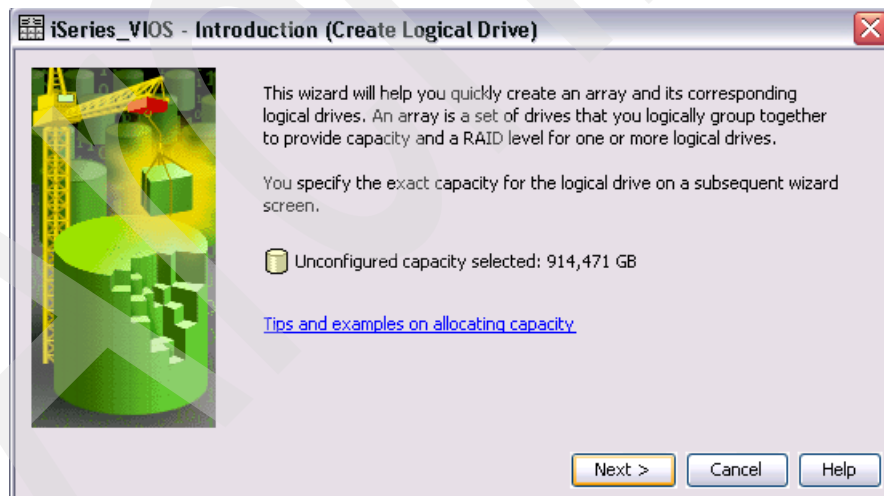

Figure 7-50 DS Storage Manager Create Logical Drive dialog
2. We selected **Next** in the Create Logical Drive dialog, as shown in Figure 7-50.